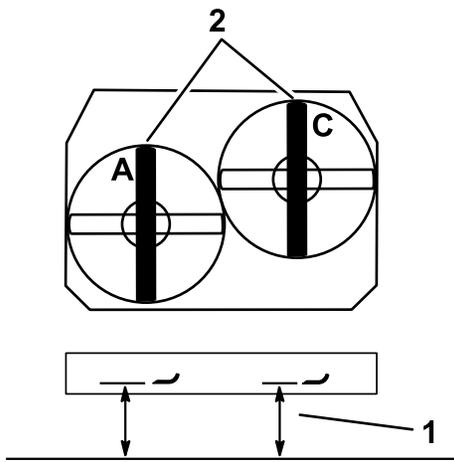

Figure 82
3. Measure the left blade at the **A** location, from a level surface to the cutting edge of the blade tip, and record this measurement (Figure 82).
4. Measure the right blade at the **C** location, from a level surface to the cutting edge of the blade tip, and record this measurement (Figure 82).
7. Adjust the adjustment bolts in the yokes, at locations **A** and **C**, to achieve the correct height (Figure 82).
3. Measure the right blade at location C, from a level surface to the cutting edge of the blade tip, and record this measurement (Figure 82).